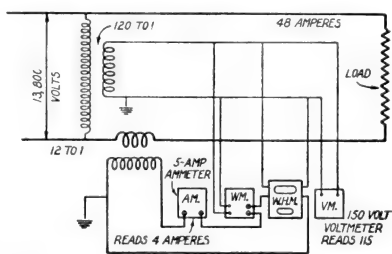

Fig. 26. Typical Connections of Instrument Transformers and Instruments for Single-Phase Measurements
**Instrument Transformer Connections.** Fig. 26 shows the method of connecting a typical instrument load, through instrument transformers, to a high voltage line. The load on the instrument transformers includes an ammeter, a voltmeter, watt meter and watt-hour meter. Each secondary is grounded at one point. Correction
To illustrate the use of instrument transformers let us consider the values indicated in Fig. 26. The ammeter has a full-scale deflec-